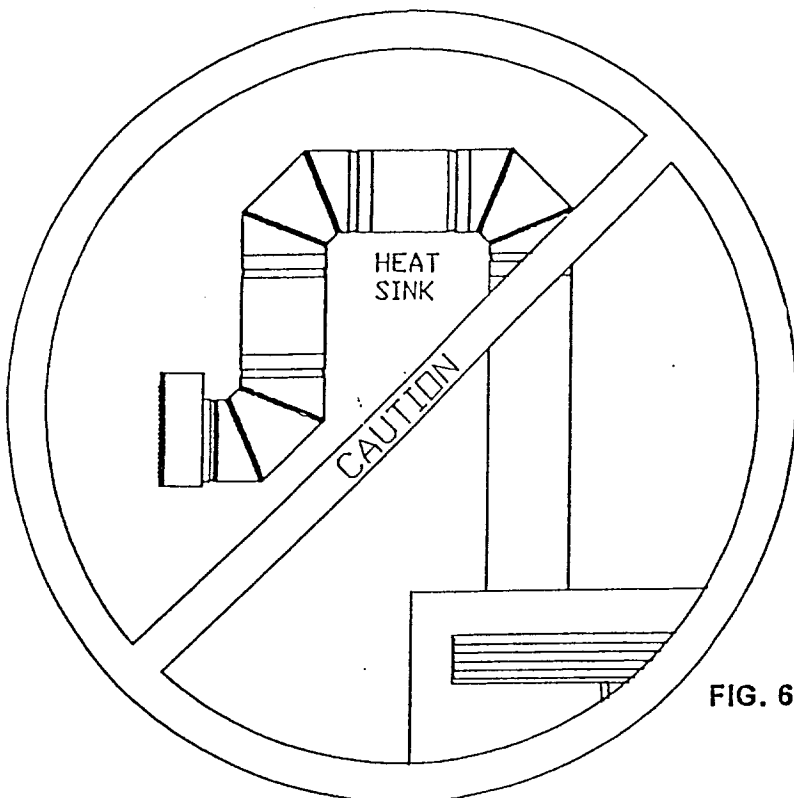

FIG. 6
- A) The heat register outlet covers must not terminate below the hot air ductwork outlets to prevent a heat sink. See Figure 6.
**CAUTION:** Do not terminate the heat register outlet covers below the hot air ductwork outlets to prevent a heat sink. See Figure 6.